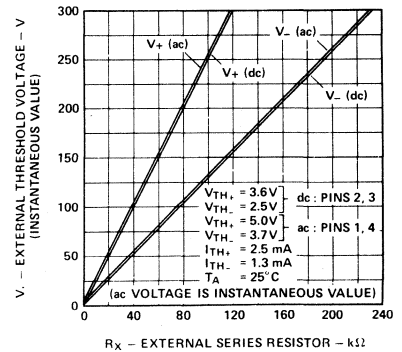
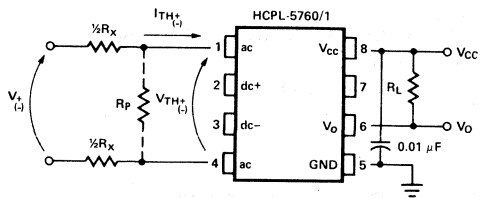

Figure 10. Typical External Threshold Characteristic, V_{\pm} vs. R_x
Figure 11. External Threshold Voltage Level Selection
The HCPL-5760, HCPL-5761, or 5962-8947701PX optocoupler has internal temperature compensated, predictable voltage and current threshold points which allow selection of an external resistor, R_x , to determine larger external threshold voltage levels. For a desired external threshold voltage, V_{\pm} , a corresponding typical value of R_x can be obtained from Figure 10. Specific calculation of R_x can be obtained from Equation (1) of Figure 11. Specification of both V_+ and V_- voltage threshold levels simultaneously can be obtained by the use of R_x and R_p as shown in Figure 11 and determined by Equations (2) and (3).